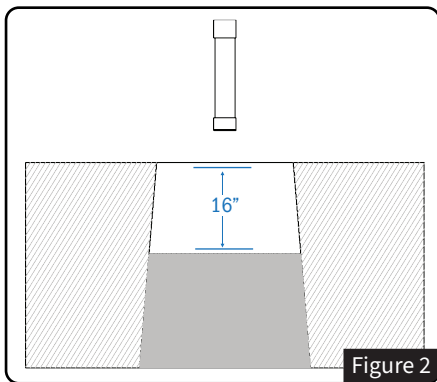

Figure 2
- Fill each hole until the concrete is 16" below the playing surface. See *Figure 2*.